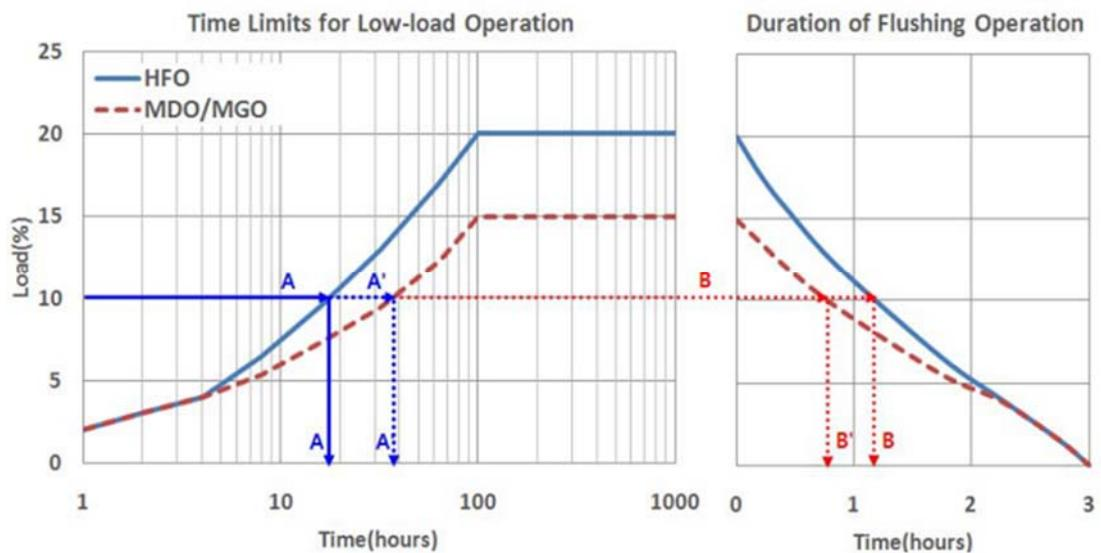

Figure 5.1 Time limits for low load operation
- ✓ Below 15% load operation : load up over 70% load at every limited time at corresponding load in Figure 5.1.
- ✓ Below 20% load operation : load up over 70% load at every limited time at corresponding load in Figure 5.1.
Duration of flushing operation (See Figure 5.1)